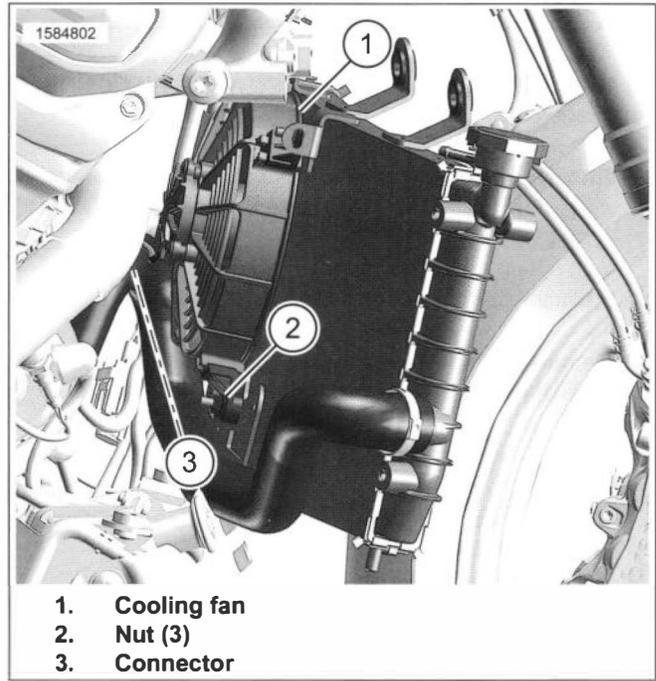
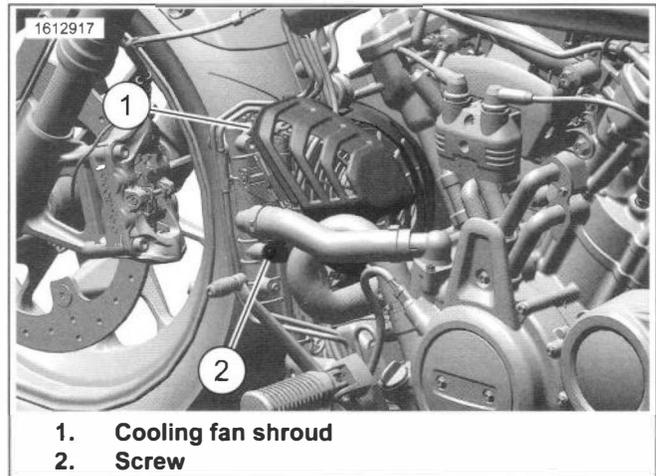

Figure 8-56. Cooling Fan
Figure 8-57. Cooling Fan Shroud
1. See Figure 8-57. Remove screw (2).
2. Move cooling fan shroud (1) to gain access to cooling fan mounting screws.
3. See Figure 8-56. Remove cooling fan and shroud.
- a. Remove screws (2).
- b. Disconnect cooling fan connector (3).
- c. Remove cooling fan (1) and cooling fan shroud together.
1. See Figure 8-56. Install cooling fan (1) and cooling fan shroud together.
- a. Install mounting feet on cooling fan (1) if removed.
- c. Install nuts (2). Tighten.
2. See Figure 8-57. Install cooling fan shroud.
- a. Install cooling fan shroud (1).
- b. Install screw (2). Tighten.